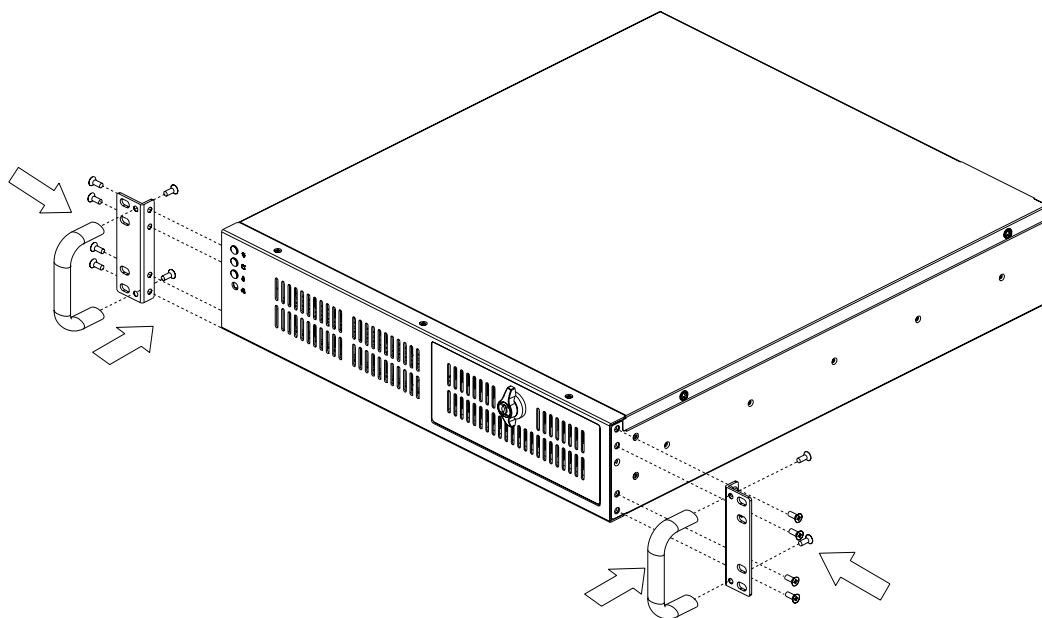

Figure 2.9 Attaching the ears and handles
6. Slide the optical disk drive and the FDD into the bracket and fasten it on both sides with the eight screws provided (see Figure 2.9). Return the 5.25" disk drive bracket with the disk drives in the original position and reattach it inside the chassis with the original screws.
To install the handles onto the chassis, refer to Figure 2.9 and attach the ears to the chassis, and the handles to the ears on the front-right and front-left edges with the screws provided.